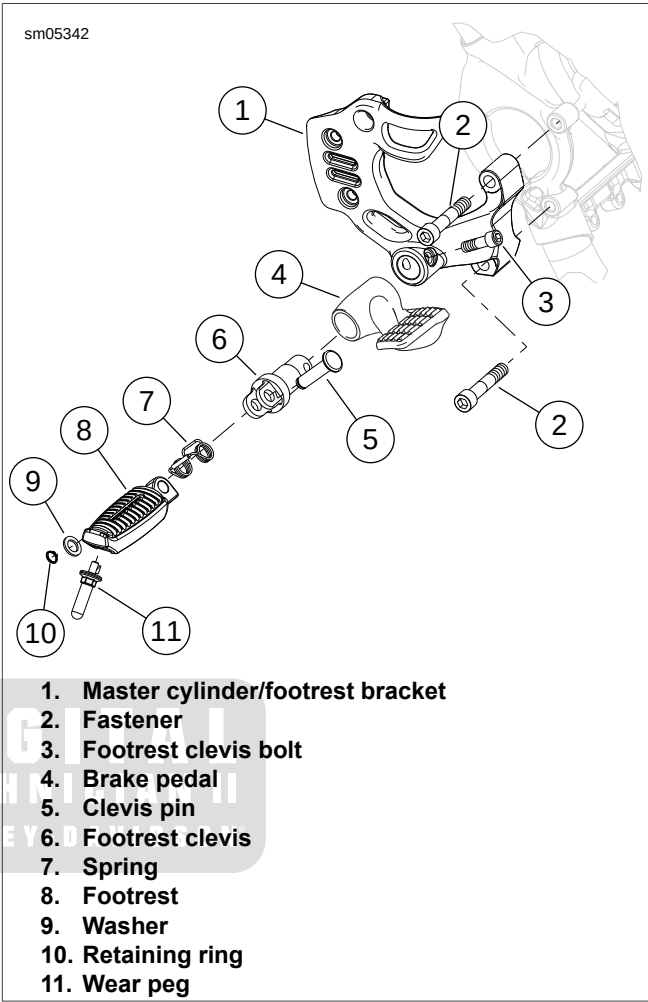

Figure 2-235. Rider Foot Control, Right Side: XR 1200X
2. If necessary, remove wear peg (11).
3. See Figure 2-235. Remove retaining ring (10) and washer (9). Discard retaining ring.
4. Remove clevis pin (5), spring (7), and footrest (8).
5. Remove bolt (3), footrest clevis (6), and brake pedal (4).
6. If necessary, remove bracket (1). The master cylinder must be disconnected from the bracket or brake line disconnected prior to removing the two fasteners (2). See 2.12 REAR BRAKE MASTER CYLINDER: XR 1200X.
2. See Figure 2-235. Install brake pedal on footrest clevis and install footrest clevis. Tighten bolt (3) to 13-17 ft-lbs (17.6-23.0 Nm).
3. Install footrest (8) and spring (7) on clevis and secure with clevis pin (5). Install washer (9) and **new** retaining ring (10).